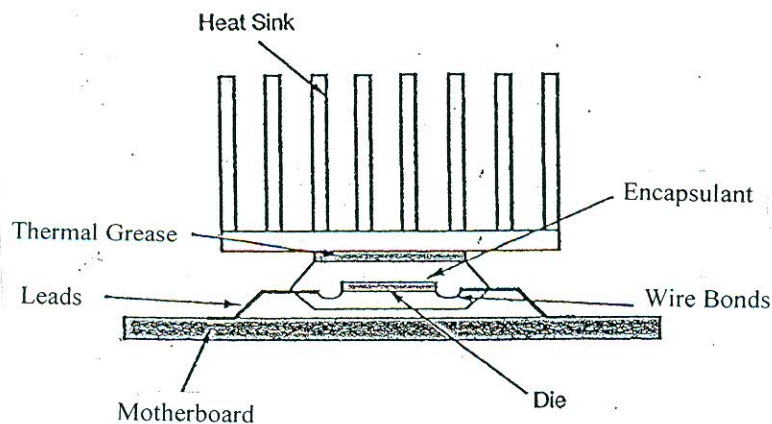

Figure 2
6. Consider the chip package with heat sink shown in Figure 2. The thermal resistance of the heat sink is obtained from a vendor catalog and is specified as  $1.0 \text{ K/W}$ . The silicon die is  $1 \text{ cm} \times 1 \text{ cm}$  and is  $1 \text{ mm}$  thick. The overall package size is  $2 \text{ cm} \times 2 \text{ cm}$ . The package is  $5 \text{ mm}$  thick and the mold material has a thermal conductivity of  $0.8 \text{ W/mK}$ . The package dissipates  $2 \text{ W}$ . The thermal interface material is  $0.2 \text{ mm}$  thick and has a thermal conductivity of  $1.5 \text{ W/mK}$ . The air gap between the package and the printed wiring board is expected to be  $0.1 \text{ mm}$  thick. Thermal conduction through the leads is assumed to be negligible. Ambient air temperature is  $45^\circ\text{C}$ . Compute the value of the die temperature, if the thermal resistance from the PWB to the air is known to equal  $10 \text{ K/W}$ .